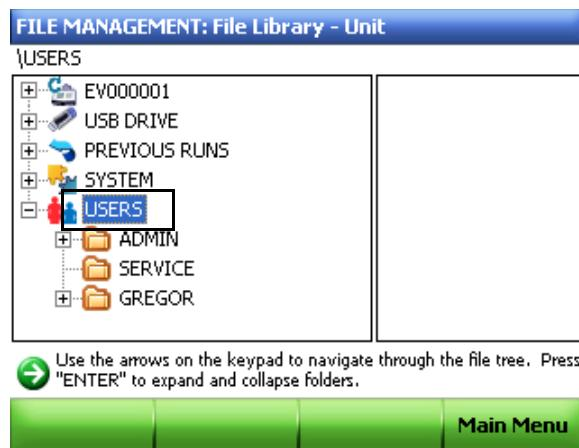

Figure 17. The **USERS** folder is highlighted.
- **USERS** folder — contains folders created by users for personal protocol storage (Figure 17). The USERS folders can be accessed by everyone, but only the user who is logged in can edit, delete or save into these folders